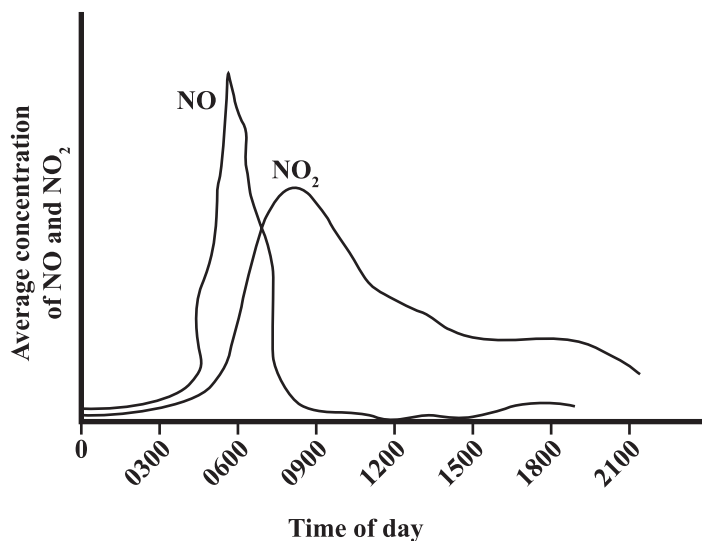

Figure 3: Concentration of NO and NO2
- (b) Figure 3 shows the average concentration of pollutants NO and NO2 in an urban area during a 24-hour period.
- (ii) Suggest a reason for the time lapse between maximum concentrations of NO(g) and NO2 (g) shown in Figure 3.
- (iii) Indicate, by drawing a curve on Figure 3, how you would expect the concentration of ozone (O3) in an urban area to vary during the course of the day. Explain your answer.